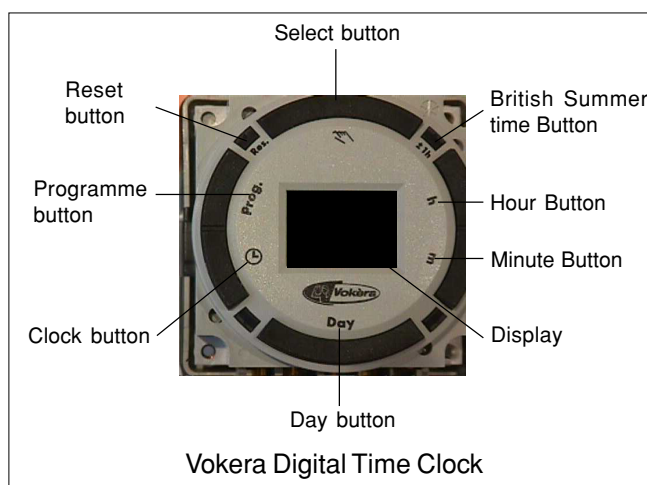

Fig. 2
- press and hold the ⊕ button (see fig 2)